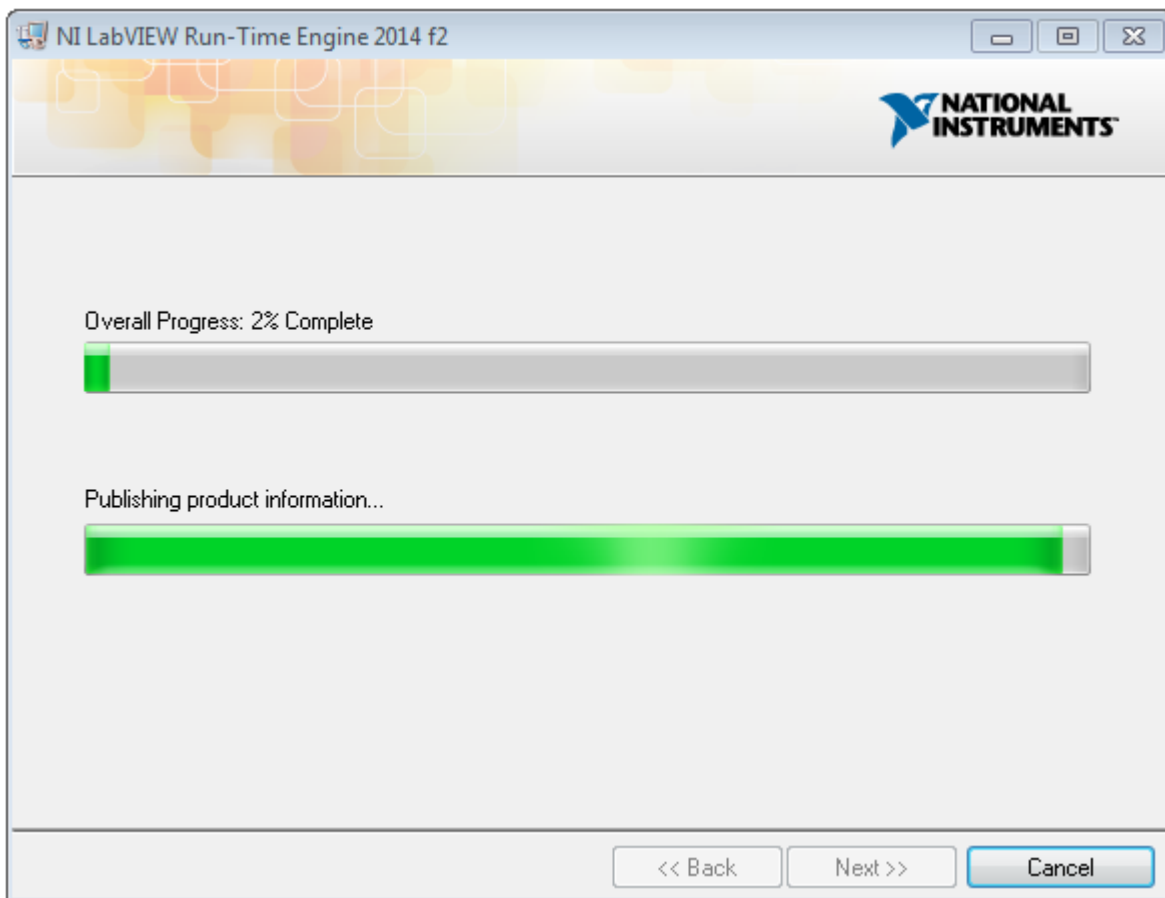

Figure 14. Installation of LabVIEW RTE in Progress
12. A display as shown in Figure 14 appears which indicates the progress of LabVIEW RTE installation.